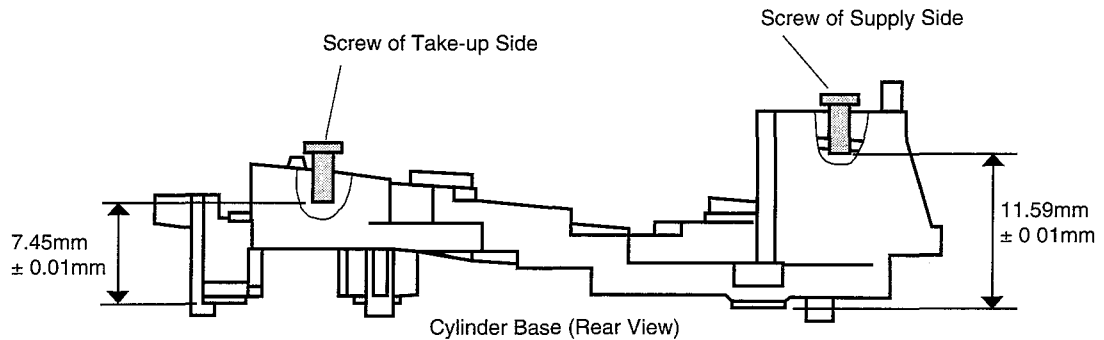
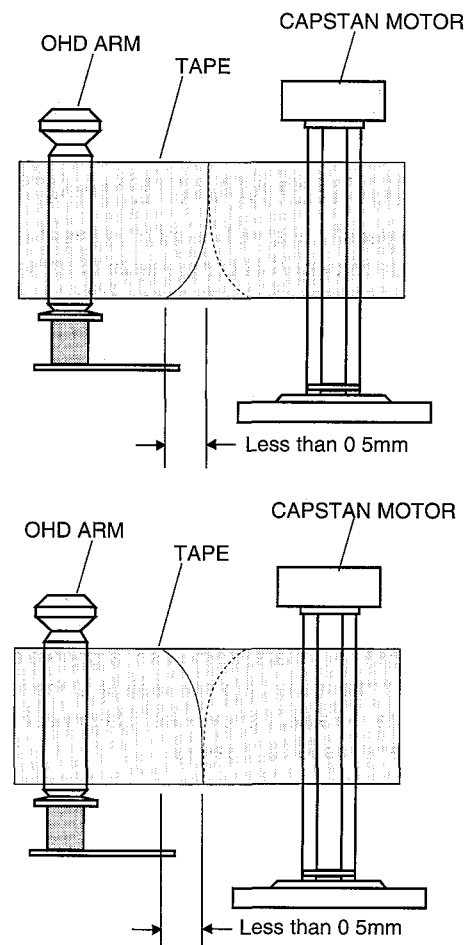

Fig. 3-2
Fig. 3-6
3.3 Cylinder Base (Guide Roller Catchers) Height Adjustment (Fig. 3-2)
- (1) Turn the two screws on the cylinder base (guide roller catchers) so that the specified values can be obtained as shown. (See Fig. 3-2)
3.6 OHD Arm Height Adjustment (Fig. 3-6)
- (1) Turn power on.
- (2) Load a blank tape that has been completely rewound.
- (3) Set to the forward search mode.
- (4) Carefully observe the tape between the OHD arm and capstan in a bright place, and make sure that minute twisting occurs on the tape. The color of tape (reflected image) at the twisted portion will appear different from the other portions. Also, twisting will look different on the left/right and up/down depending on the direction of incident light, as shown in Fig. 3-6.
- (5) Adjust the height of OHD arm so that the widest portion where color of tape looks different is less than 0.5 mm.
- (6) Make sure that no curling of tape occurs at either the top or the bottom flange of OHD arm. (However, even if some curling occurs at either flange, it can be judged in the allowable range if there is no scratch on the tape and there is no gap between the other flange and tape edge.)
- (7) Load the blank tape that has been rewound again. Set to the forward and reverse search modes, and make sure that step (6) is satisfied.
- (8) Connect an oscilloscope to TP3.
- (9) Synchronize the oscilloscope with TP1.
- (10) Set the oscilloscope to (+) slope.
- (11) Play back the alignment tape. Set to forward search and reverse search modes, and make sure that the FM waveform does not collapse. Also, make sure that noise bars do not fluctuate up and down on the monitor screen.
- (12) If step (11) cannot be done, turn the screw on the take-up side of the cylinder base (see Fig. 3-2) counterclockwise by approx. 45°, and then perform this adjustment from the start, after doing "3.5 Guide Roller Height Adjustment (Adjustment After Replacing the Cylinder)".